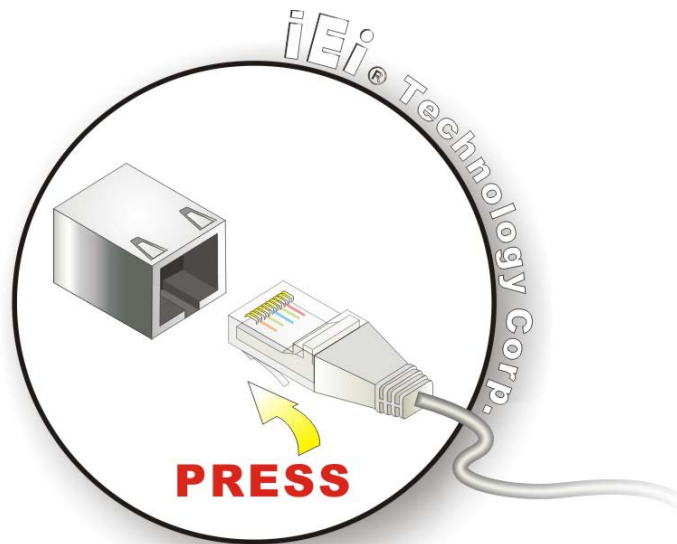

Figure 4-13: LAN Connection
Step 2: Align the connectors. Align the RJ-45 connector on the LAN cable with one of the RJ-45 connectors on the IMBA-C604EN. See **Figure 4-13**.